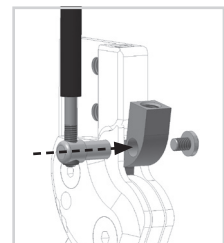

fig. 4
- 1 Secure the threaded sleeve (3) on the pulling cable.
- 2 Push the pulling cable from below through the pulling cable holder (2). The threaded sleeve (3) should be flush with the holder and no longer be visible.
- 3 Place the pulling cable holder (2) into the bore of the locking pawl (fig. 4).
- 4 Secure the pulling cable holder (2) with the pan head screw (1). Secure the pan head screw with LOCTITE® 243 medium strength.